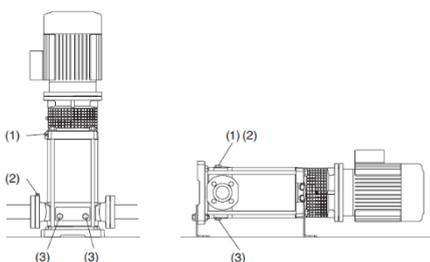

Fig. 4 (1) Filling and air vent
When the pump is located above the water level (suction lift operation, fig. 3A) or with a positive suction head which is too low (less than 1 m) to open the non return valve, fill the suction pipe and the pump through the priming hole (1) (fig. 4).
Close the air vent holes (fig.4), 25-32-40 Tighten the needle screw in the drainage plug (fig. 4b) and close the air vent hole. Start the pump with the delivery gate valve closed and with the suction gate valve fully open. Immediately afterwards, gradually open the delivery gate valve, adjusting the point of operation within the limits indicated on the name plate.
If a priming loss occurs (interruption of delivery flow, despite opened gate valves) or if a pressure oscillation is indicated on the pressure gauge, repeat the venting operation on the suction side (2), make sure all the suction pipe couplings are perfectly sealed and tighten the air vent plug (2) and the draining plugs (3) on the suction side (fig.4).
Or, after draining, perform the washing operation, inserting clean water (at least 40 litres) into the filling hole (1) on the delivery side and allowing it to come out of the draining hole (3) on the suction side (fig.4).
Before dismantling, disconnect the power cable from the terminal box, close the gate valves in the suction and delivery pipes and empty the pump casing (fig. 4).